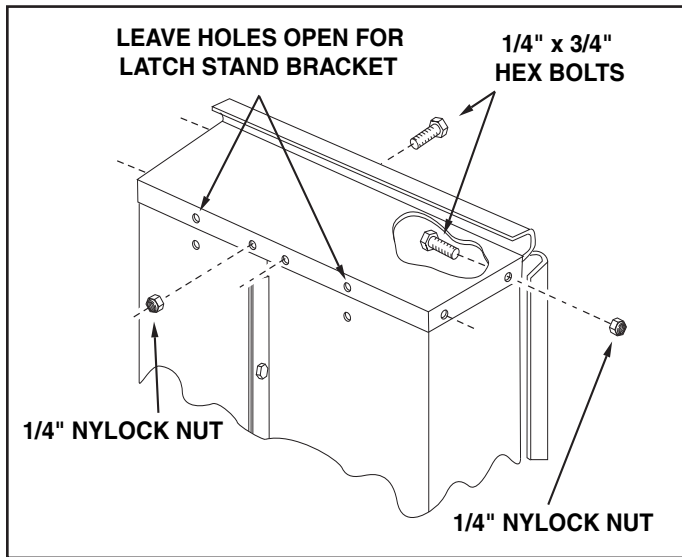

FIGURE 5
9. Assemble the front panel over the end of the cart using six $1/4" \times 3/4"$ hex bolts and $1/4"$ nylock nuts as shown in figure 5. Leave two holes in the bottom of the panel empty as shown. With the cart body halves pulled together, **tighten** the bolts in the bottom of the front panel, then **tighten** the bolts in the sides. See figure 5.